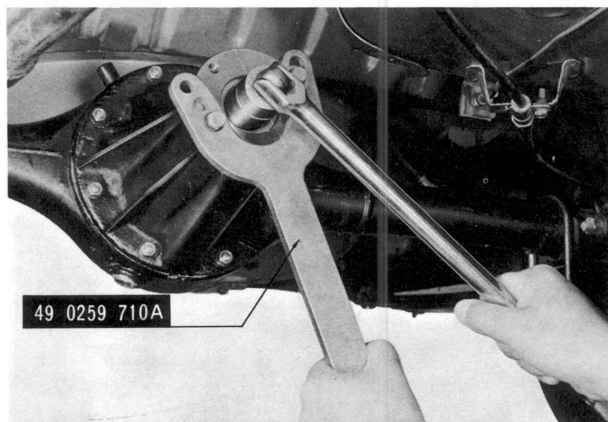

Fig. 9-12 Removing pinion nut
4. Using the **companion flange holder** (Part No. 49 0259 710A) shown in Fig. 9-12, remove the pinion nut and washer.